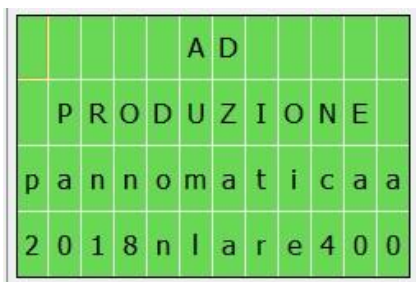

FIG 1
**WITH THE 2018 UPDATE OF PANNOMAT, THE RED LIGHT GOES ON WHEN THE LEVER OF THE MICRO SWITCH (FIG. 1) IS PUSHED BY THE ROD OF END CLOTH.**